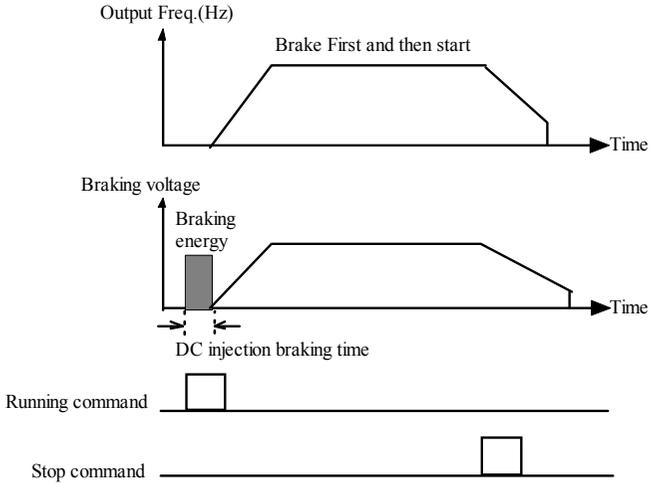

Figure. 5-1-1 Brake first and then start
- ◆ First brake (excitation) and then start at the start-up frequency: Inverter adds some DC braking power to load first, and then startup. As shown in Figure. 5-1-1. Starting mode 1 is suitable for small inertia load which is running forward or reverse while the inverter is in stop state, such as fan load. DC braking parameters refer to P1.03 and P1.04.
- ◆ P1.03 and P1.04 are only active when P1.00 is set to 1 (start mode 1 is selected), as shown in Figure. 5-1-1.